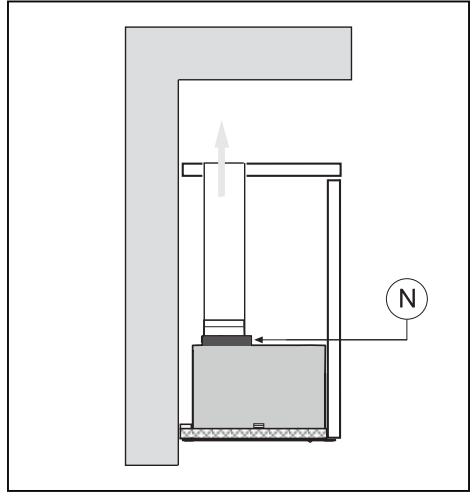
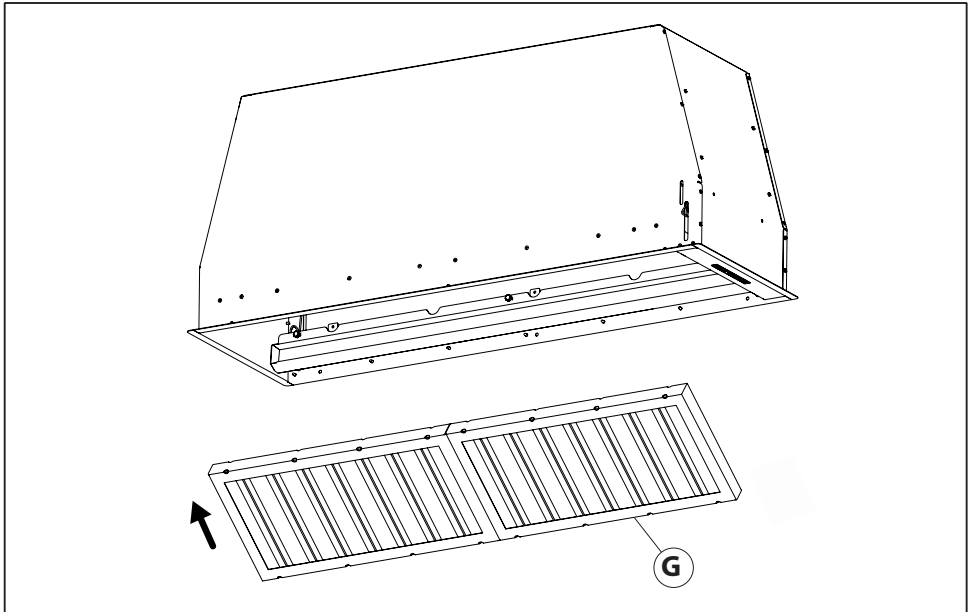
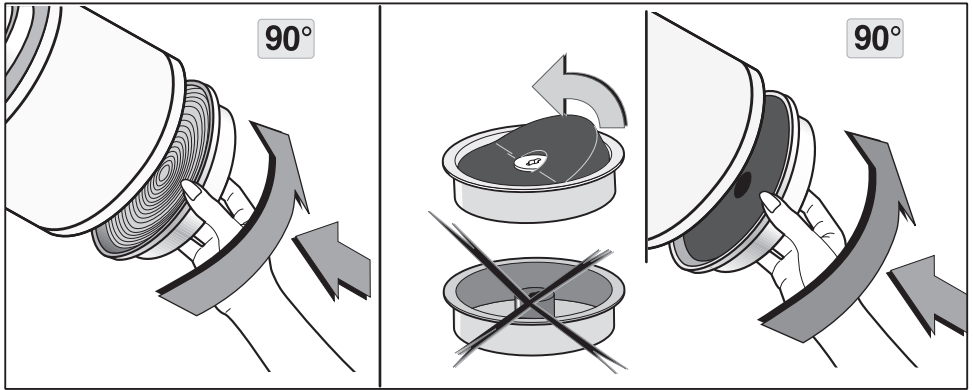

Fig.10
Fig.11
Fig.13
• The minimum distance between the support surfaces of the cooking pots on the cooker top and the lowest part of the cooker hood must be at least **65 cm**. If a connection tube composed of two parts is used, the upper part must be placed outside the lower part. Do not connect the cooker hood exhaust to the same conductor used to circulate hot air or for evacuating fumes from other appliances generated by other than an electrical source. Before proceeding with the assembly operations, remove the anti-grease filter(s) (Fig. 11) so that the unit is easier to handle.
The filters should be fitted to the extraction assembly inside the hood, by centring them and rotating them 90 degrees, until they click into place (Fig. 13). Remove panels **G** when performing this procedure (Fig. 11). The air is released back into the room through an air exhaust pipe which passes through the cabinet and is connected to air exhaust hole **N** (Fig.10).